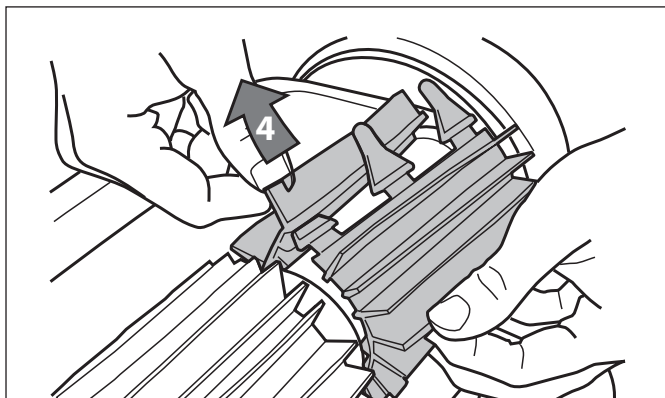

Figure 31. Pull Tabs Through Each Slot
4. Thread each tab into the slot provided and gently feed it through until the heel comes out at the other side of the slot (Figure 31).